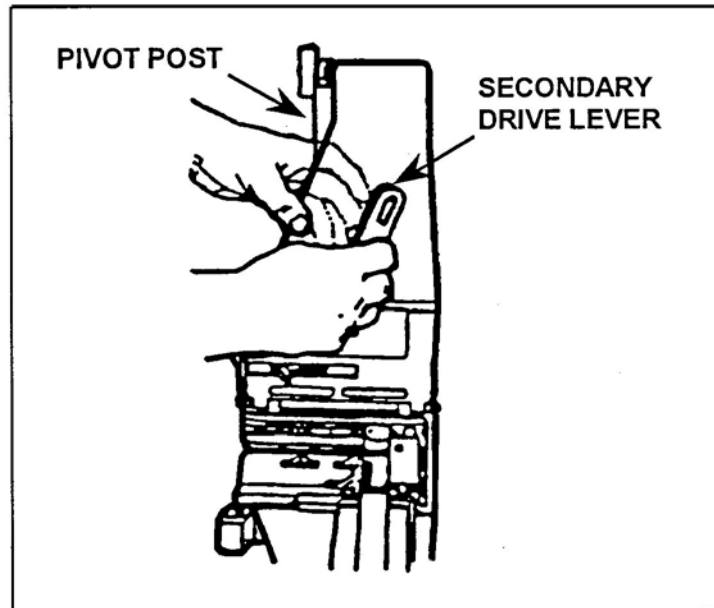

Figure 6. Removal of the secondary drive lever.
(1) Push down on the pivot post from the outside top cover. This releases the secondary drive lever (Figure 6).